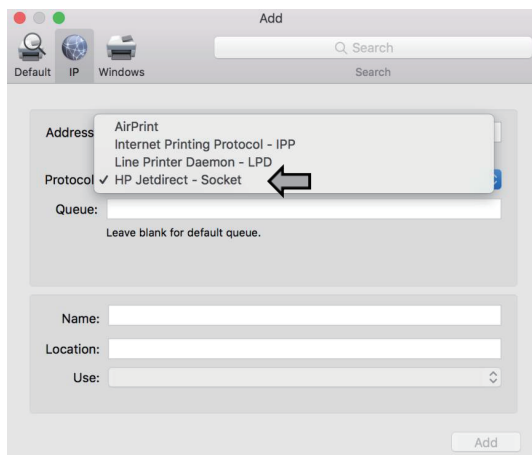

Fig.9
④ Click the “Protocol” drop-down menu and select “HP Jetdirect – Socket” (only the Socket protocol is supported) (see Figure 9).